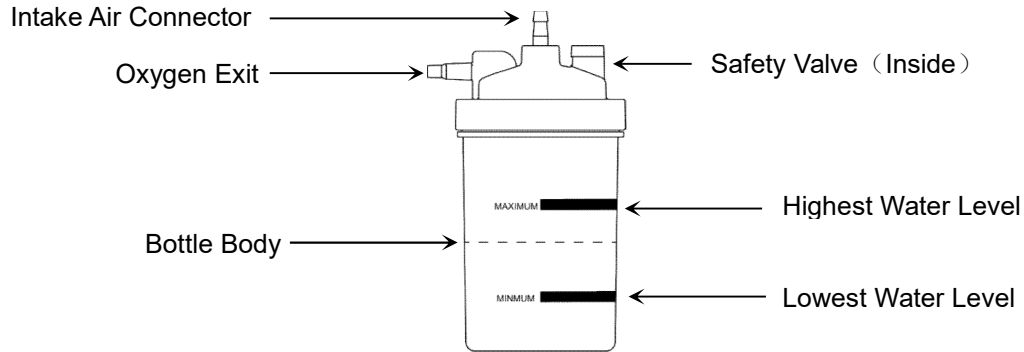

Figure 3-1 Components of humidification bottle
- a. Put distilled water into the humidification bottle as the water level instructions. Fix the cover to the body (as Figure 3-1).